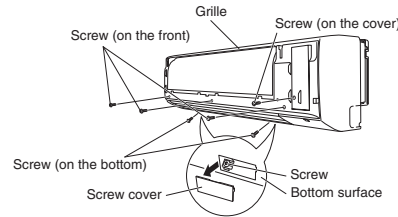

Fig. 3-83
- (3) Remove the 3 screws from the front of the unit and remove the screw covers on the bottom surface. Then remove the 2 screws. (Fig. 3-83)
- (4) Remove the screw on the right side cover plate and remove the cover. (Fig. 3-83)